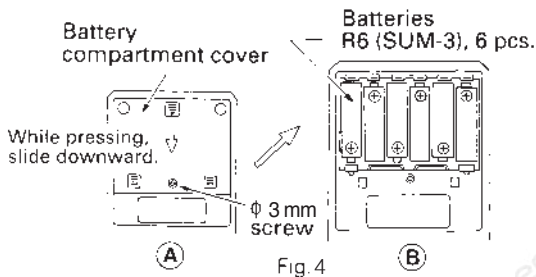

Fig. 4
1. When the batteries are low, the power indicator lamp (ON) starts blinking after the MEASURE PUSH switch is pressed. When this happens, replace the batteries with new ones. Refer to Fig.4 for replacing the batteries.
2. Unfasten the screw from the battery compartment cover on the back of the unit. While pressing the rectangular protrusion in the center of the cover as shown in Fig.4 (A), slide it down to remove it. Insert new batteries and align them according to the battery directions shown in Fig.4 (B).